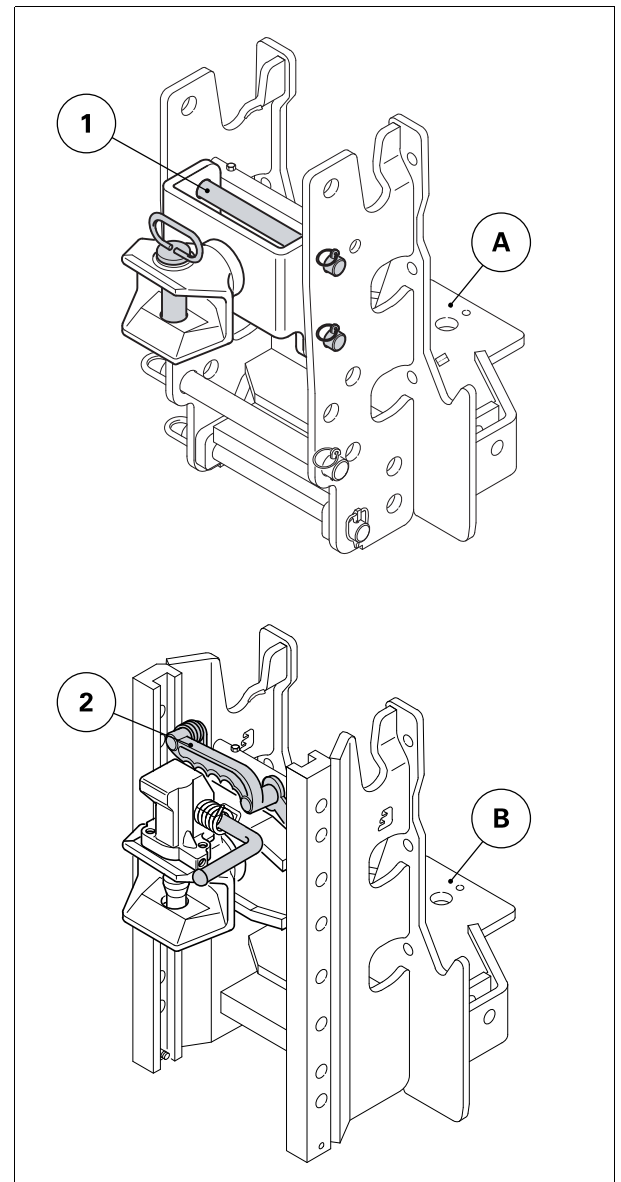

Fig. 10.
To adjust the height of the clevis, remove the two pins (1) fig. 10, position the clevis at the required height and refit the pins and their security pin.
To adjust the clevis height, pull the handle (2) upwards fig. 10, then raise or lower the clevis to the required height and release the handle.